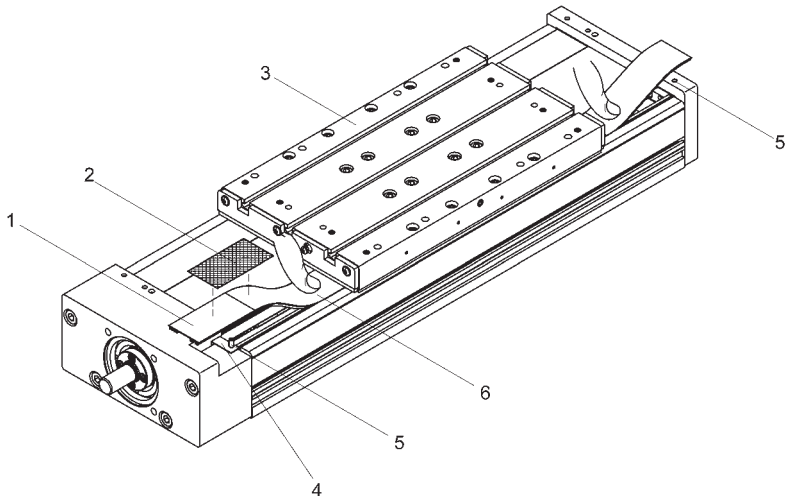

Fig. 11
1. **Fig. 11:** Move the power bridge (3) to the backward end position (idle bearing side).
2. Loosen the threaded studs (5) on the fixed bearing housing and on the end cover.
3. Pull the old sealing strip (6) with tensioning plate (4) out of the fixed-bearing housing towards the idle side until it is about 20 cm from the power bridge (Attention: do not pull it through the carriage!).
4. Remove the old sealing strip (6) from the tubular